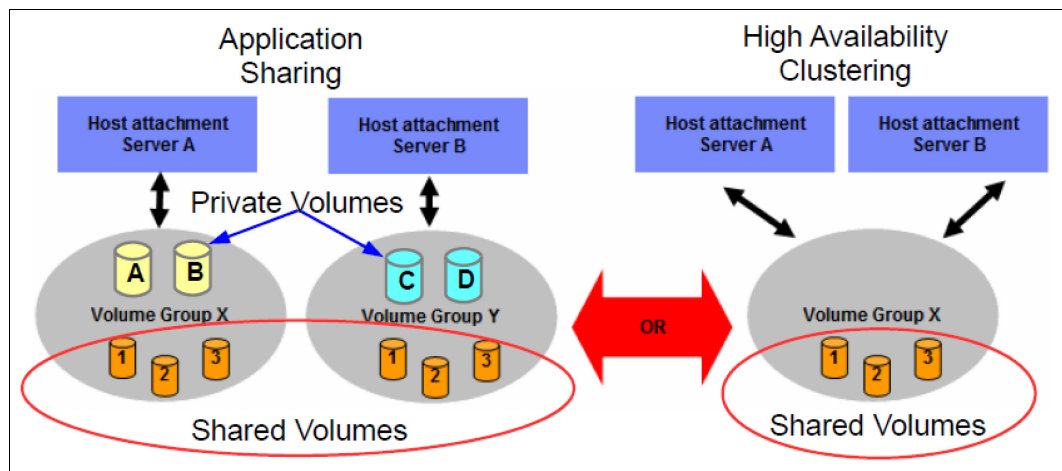

Figure 10-1 LUN configuration for shared access
- ▶ Assign multiple ranks to extent pools to take advantage of storage pool striping. Additionally, assign ranks from multiple device adapter (DA) pairs to an extent pool to spread the workload and increase performance. See 6.5.2, “Data placement in the DS8000” on page 178.
- ▶ The following options are available for fixed-block (FB) pools:
- If LUN sharing is required, the following options are available (Figure 10-1):